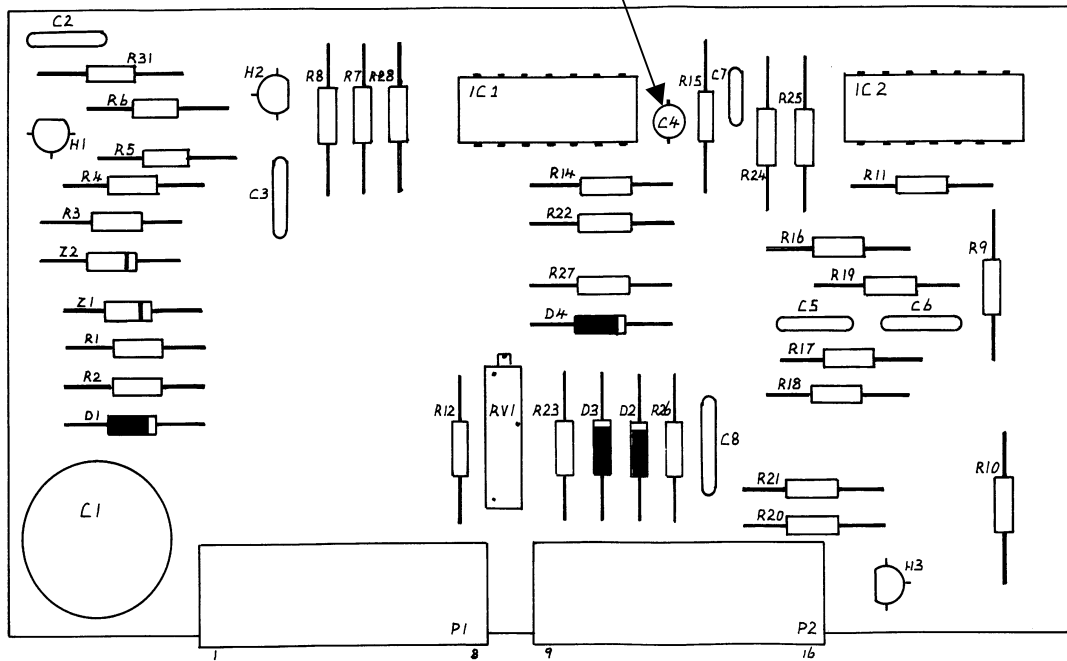

Fig 2 CP34-43 Speed Board
- On the CP34-43 Speed Board, change C4 to 0.1uF, 100v polyester or MKT, as shown in Fig 2.